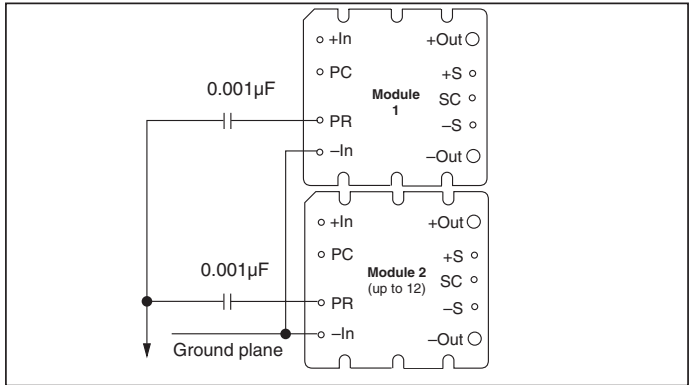

Figure 10—AC coupled single-wire interface.
**AC coupled single-wire interface.** All PR pins are connected to a single communication bus through 0.001  $\mu\text{F}$  (500 V) capacitors. This interface supports current sharing and is fault tolerant except for the communication bus. See Figure 10.